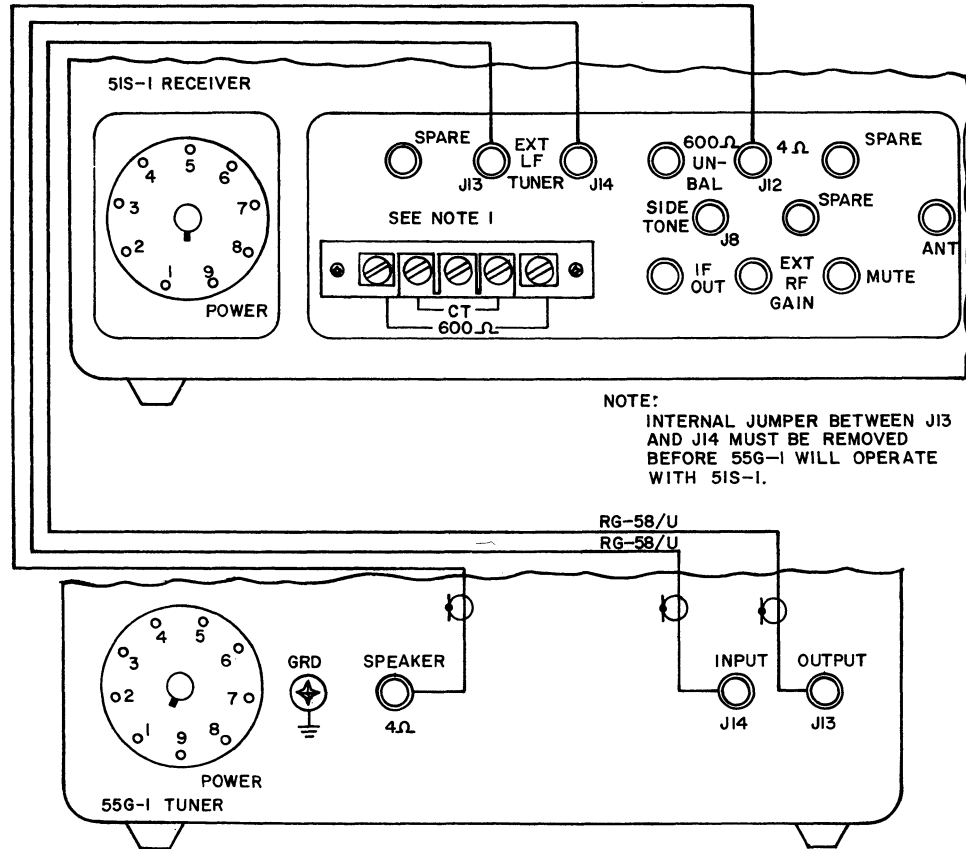

Figure 1-2. Connection of 55G-1 to 51S-1.
- b. Connect one interconnecting cable between 55G-1 4 Ω SPEAKER jack and 51S-1 4 Ω jack (figure 1-2).